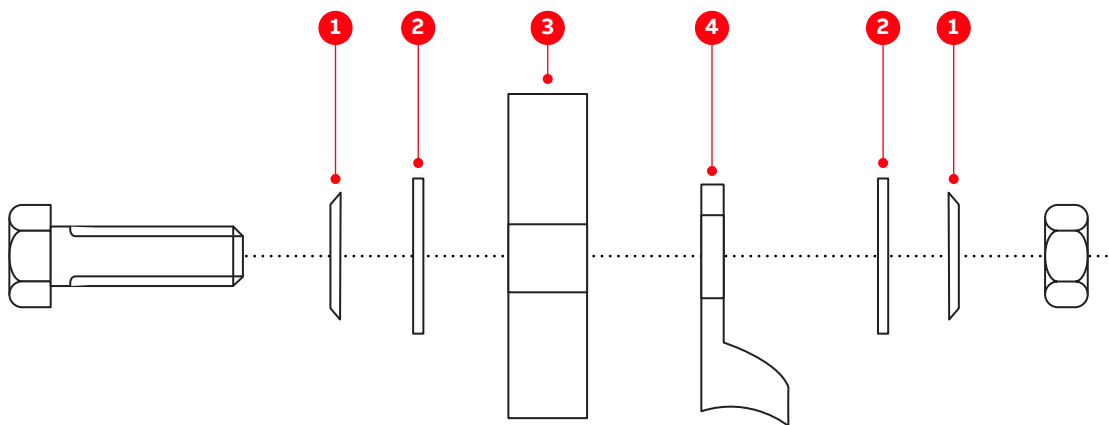

Figure 7-11: Bolted busbar connections
The following connection type is recommended when a cable lug (4 in Fig. 7-11) is connected to a busbar:
- Spring washer (1 in Fig. 7-11) and flat washer (2 in Fig. 7-11) on each side of the busbar (3 in Fig. 7-11).